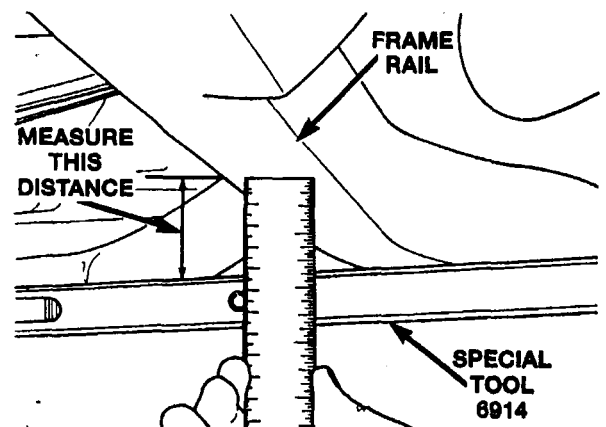

Figure 15
c. Check the distance from the bottom of each of the **rear** frame rails to the top surface of the Vehicle Height Checking Fixture (Special Tool #6914) (Figure 15). The distance should be: